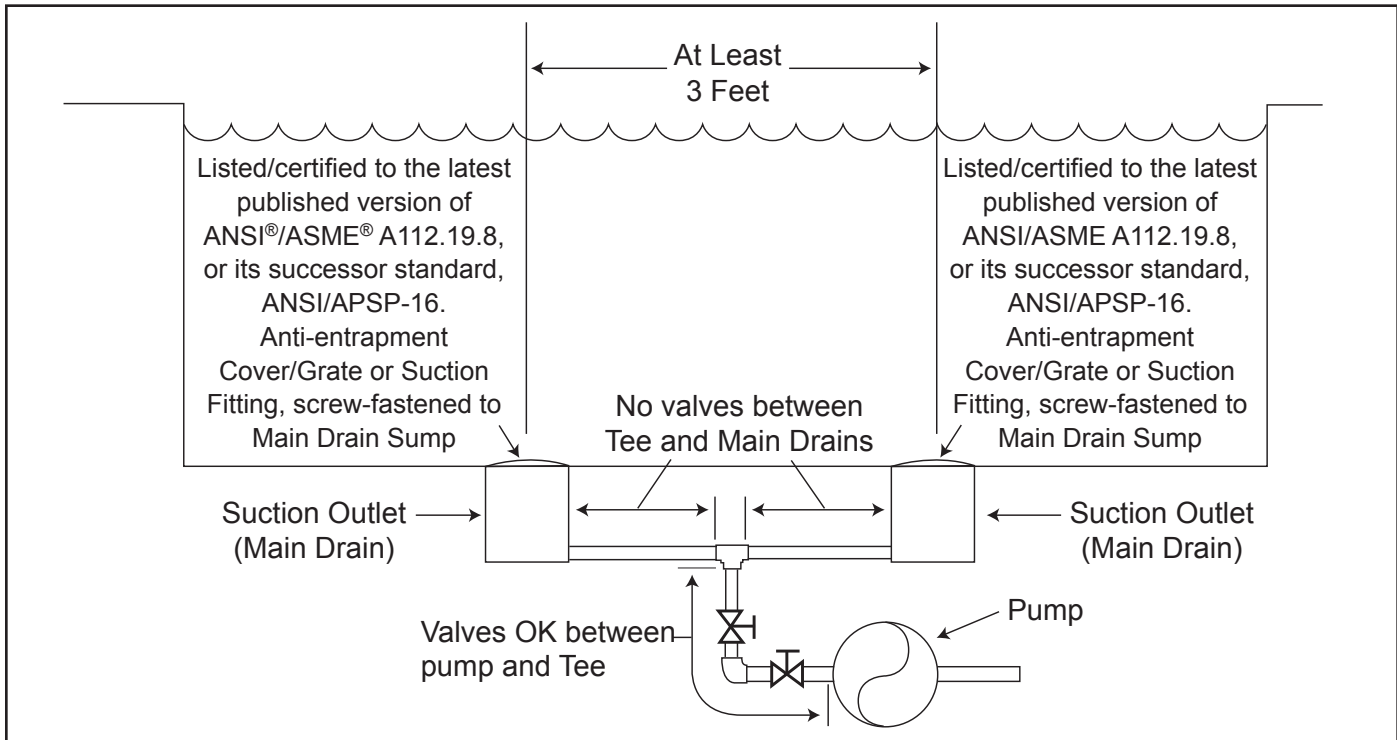

Figure 1. Number of Suction Outlets Per Pump
**Number of Suction Outlets Per Pump** - Provide at least two (2) hydraulically-balanced main drains, with covers, as suction outlets for each circulating pump suction line. The centers of the main drains (suction outlets) on any one (1) suction line must be at least three (3) feet apart, center to center. See Figure 1.
The system **must** be built to include at least two (2) suction outlets (drains) connected to the pump whenever the pump is running. However, if two (2) main drains run into a single suction line, the single suction line may be equipped with a valve that will shut off both main drains from the pump. The system shall be constructed such that it shall not allow for separate or independent shutoff or isolation of each drain. See Figure 1.